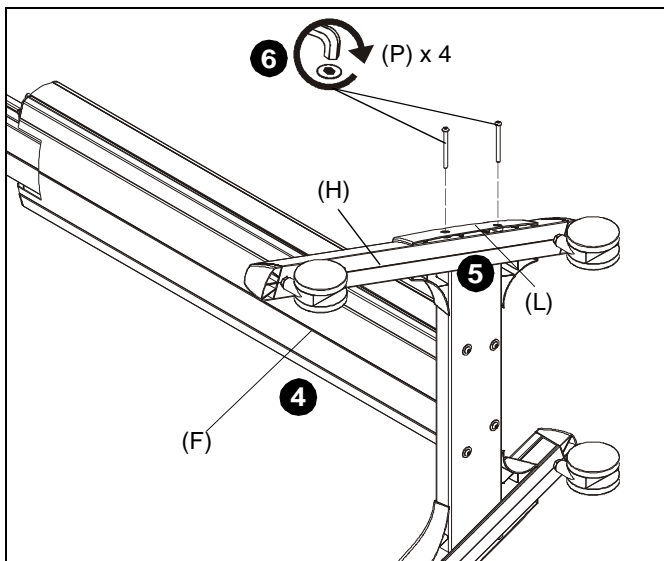

Figure 2
4. Turn column assembly (F) onto its right side. (See Figure 2)
5. Place left transition cover (L) on left cart leg (H), lining up the holes on the cover with the holes on the leg and column assembly base. (See Figure 2)
6. Use two 5/16-18 x 3/4" button head cap screws (P) to secure leg (H) and cover (L) to column assembly (F). (See Figure 2)